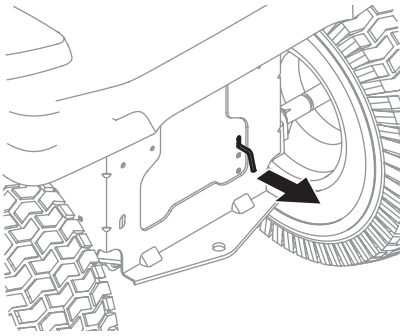

Fig. 1
1. Engage the transmission bypass rod to move the tractor manually without starting it. The transmission bypass rod is located on the rear of the tractor, on the frame. Engage the bypass rod by pulling out (Fig. 1).
2. Disengage the transmission bypass rod by pushing the rod back in after moving the tractor (Fig. 1).